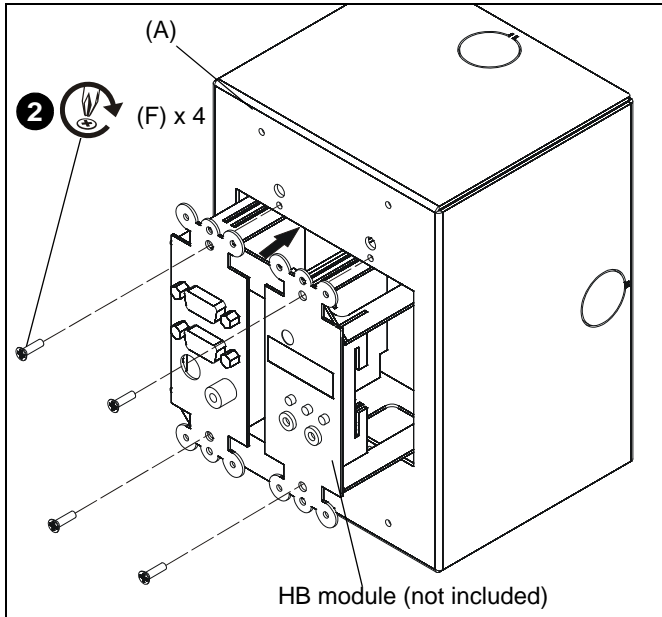

Figure 5
2. Install HB module (not included) to electrical box using four #6-32 x 1/2" Phillips flat machine screws (F). (See Figure 5)